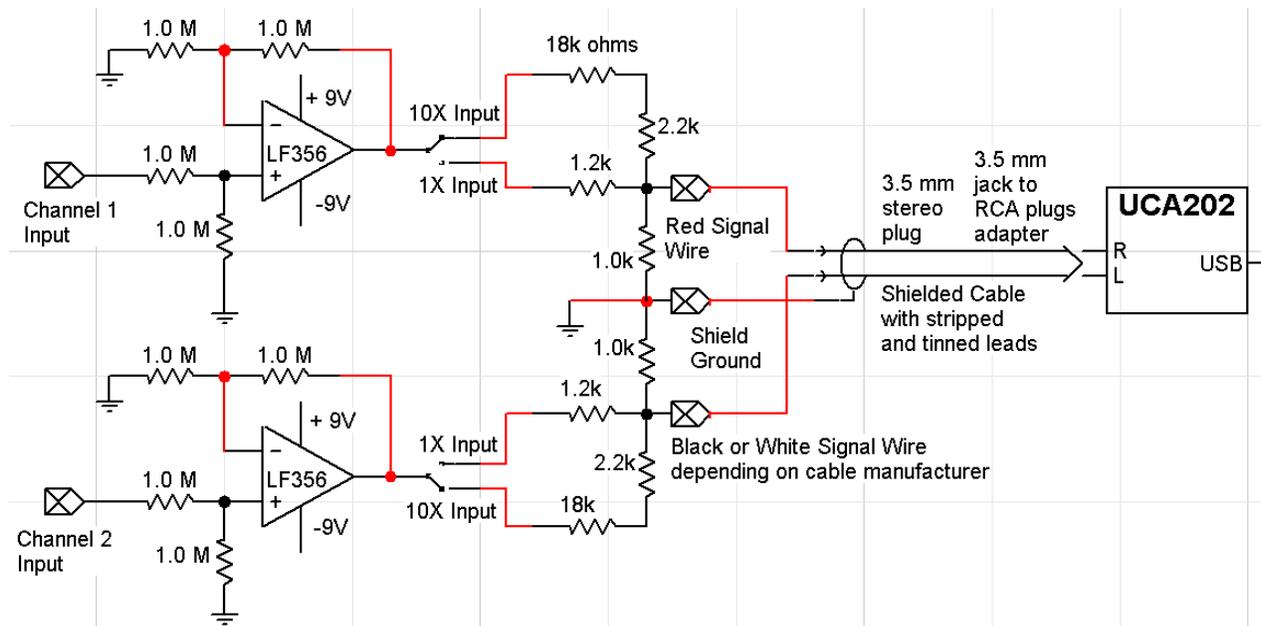
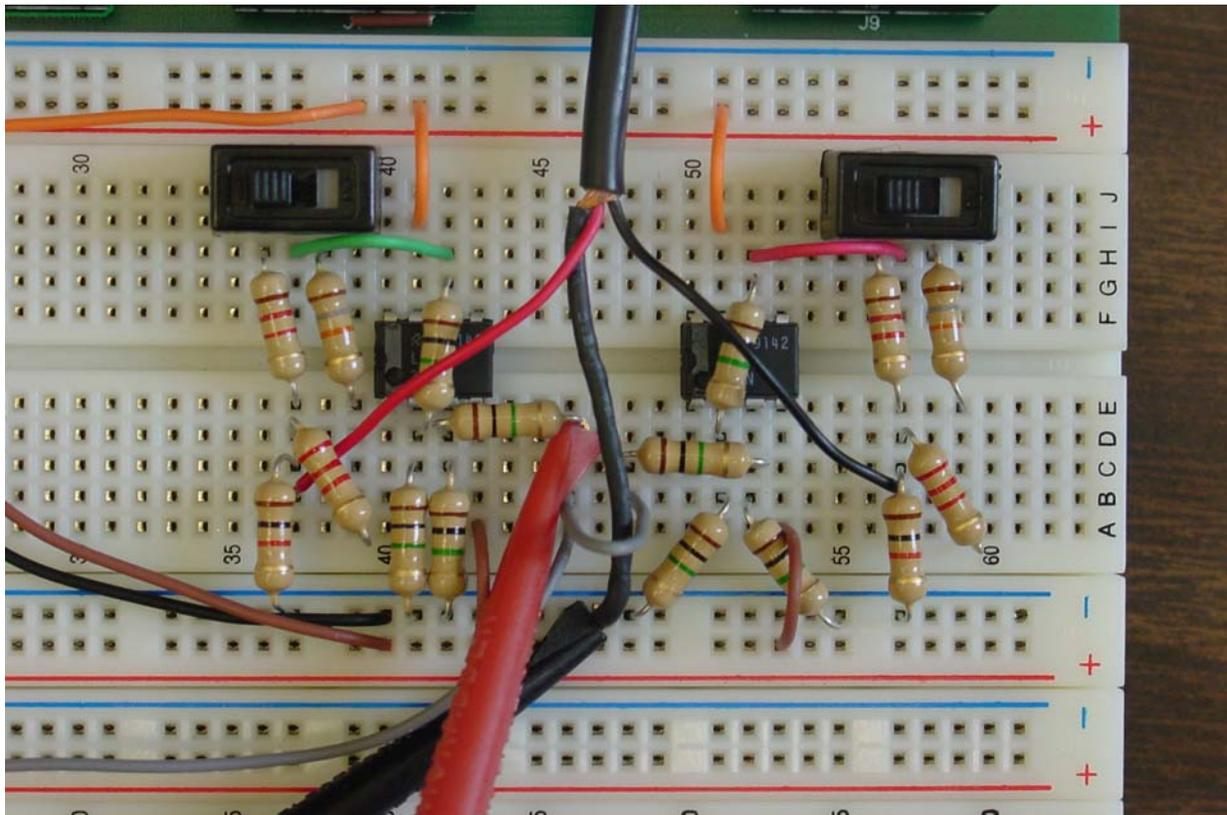

Figure 1: Block Diagram of 1x and 10x attenuator resistor networks.
Figure 2: Implementation of attenuator circuit on the ANDY board.
The recommended hardware and software for the Lab-in-a-Box consists of a Behringer UCA202 external USB sound card as the interface between the ANDY board and a software oscilloscope provided by Christian Zeitnitz of the Johannes Gutenberg-Universität Mainz (Zeitnitz 2008b). After installing the Zeitnitz software and setting the software volume gain to its maximum value, a precision voltage source was used to determine that this hardware/software combination had a gain of 2.18. A true voltage of 1.00 V on the ANDY board, as generated by the known source, produces a signal with a reading of 2.18 V on the oscilloscope screen. Thus, the input signal must be attenuated. To easily incorporate both the 1x and 10x ranges in the circuit, we design a circuit as shown in Figure 1. After calculating the resistor values, some minor adjustments were necessary to produce the desired system gain. In particular, higher resistor values interacted with the UCA202. Note the combination of resistors has been selected so that every resistor needed is available in the standard resistor kit (See Appendix A). If a different sound card is used, it will be necessary to measure the gain for that system and adjust the voltage divider networks accordingly.
1. Build the circuit shown in Figure 1 in the upper right hand corner of the ANDY board. A photo of one such implementation is shown in Figure 2. It is convenient to build the Channel 1 attenuator with green wires and the Channel
2 attenuator with red wires as shown in Figure 2, thus making the color coding match the colors of the traces shown on the oscilloscope screen. Note that Channel 1 has been built to the left of Channel 2 to make it easier to remember which channel is which. **Remember** to connect the ANDY power supplies and ground to the breadboard busses.
2. Attach the stereo cable to the resistor divider network, plugging the stripped and tinned leads into the breadboard as indicated in Figures 1 and 2. Note that the larger, black wire is the ground, while the smaller red wire is Channel 1 and the smaller black wire is Channel 2. If your cables have a different color code, experimentally determine which color wire corresponds to which Channel. Note that the UCA202 inputs are RCA jacks, so we need a “3.5mm stereo jack to 2 RCA plugs” adapter (see Figure 3).
(a) For each Channel’s attenuator circuit, sliding a switch lever to its left position (shown in Figure 2) provides 1x attenuation and sliding it to the right position gives 10x attenuation.
4. Connect the two attenuator inputs together, as shown in Figure 2.
9. Connect the RSR MY-64 multimeter (in the $2\text{ V} \sim [\text{AC}]$ position) to each attenuator input and ground (see Figure 2), and adjust the ANDY GEN AMPLITUDE trimpot until the attenuator input is between 0.740 and 0.745 volts RMS. Adjust the ANDY AMPLITUDE trimpot, and remove your fingers before measuring, to avoid disturbing the trimpot setting. Record this value for future calculations.